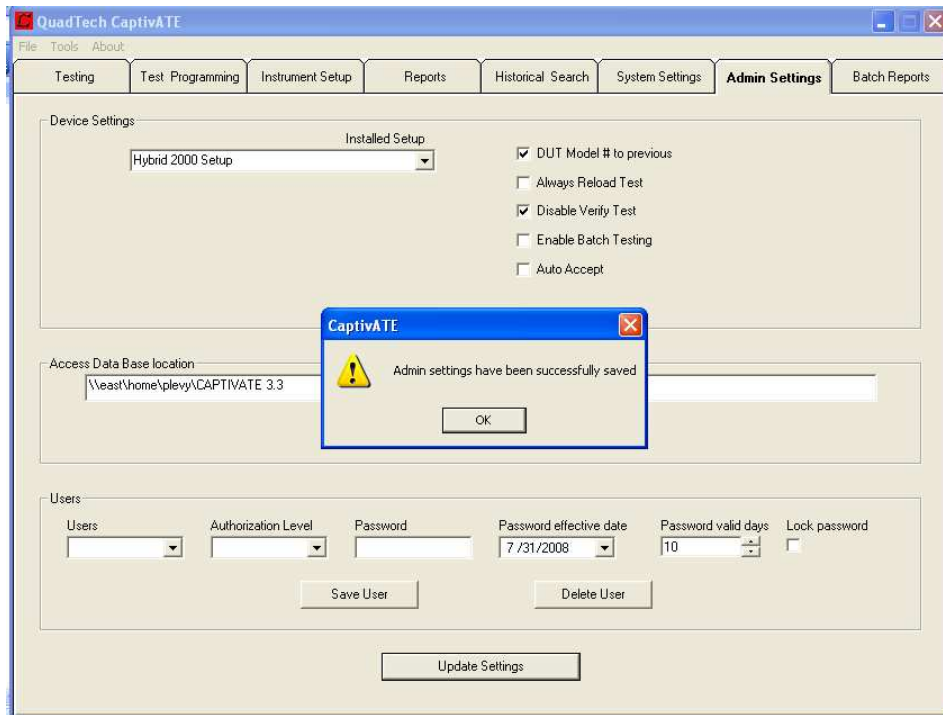

Figure 36 Admin Settings Pop-up
2. Click the **Update Settings** button and see the pop-up window as shown in Figure 36.